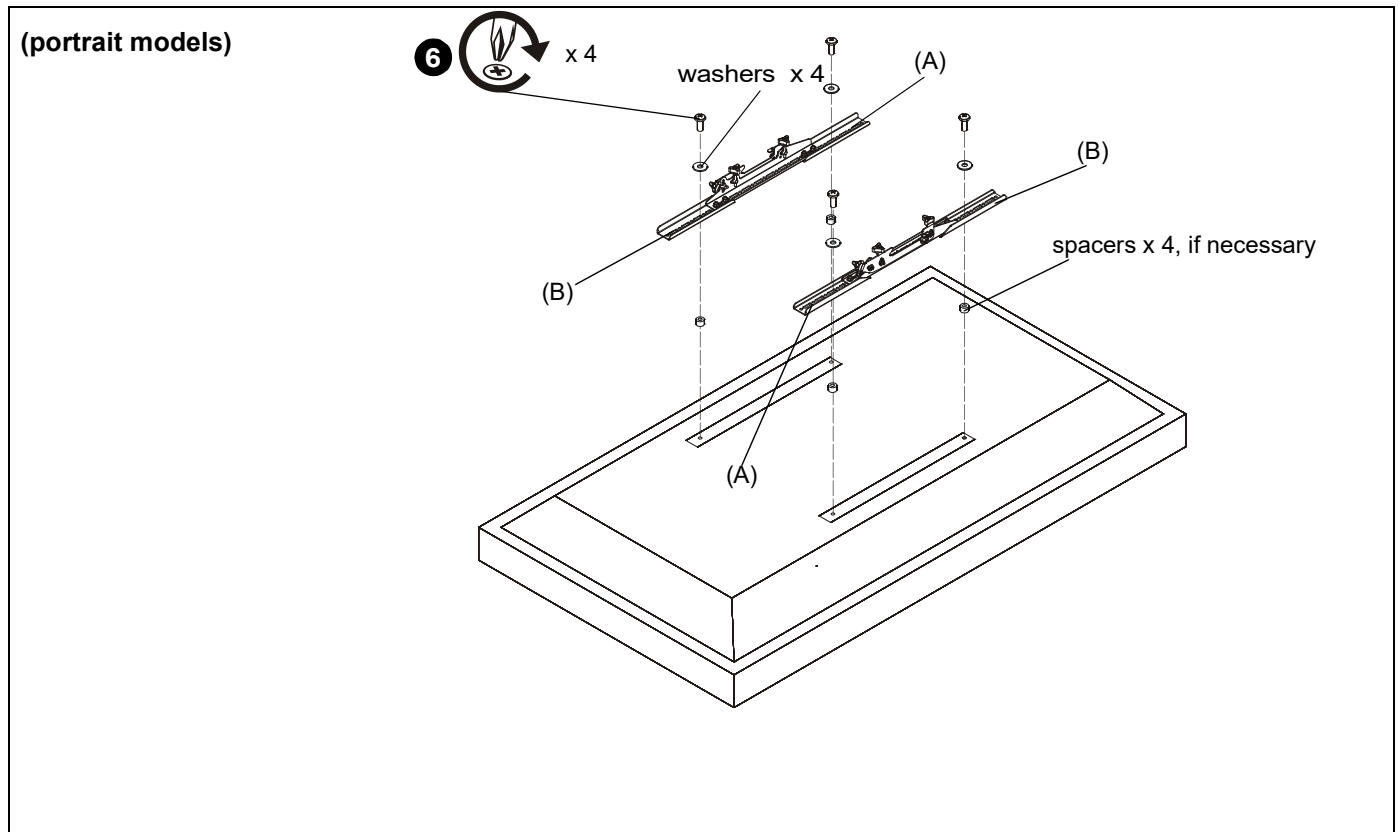

Figure 6
2. Select screw *diameter* by examining hardware (included with original uprights) and comparing with mounting holes on display. (See Figure 6)
4. Select screw *length*: (See Figure 6)
5. Align the center of the interface brackets (A and B) with center of screen. (See Figure 6)
6. Use selected screws, washers and spacers, if necessary, to connect interface brackets (A and B) to back of display. (See Figure 6)